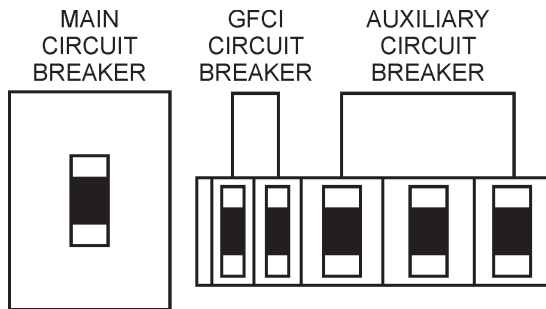

Figure 44. Main, Aux. and GFCI Circuit Breakers
1. Be sure and place the **main**, **G.F.C.I.** and **aux.** circuit breakers (Figure 44) in the “**OFF**” position prior to starting the engine.
1. Place both the **MAIN**, **GFCI** and **LOAD** circuit breakers as shown in Figure 44 to the "OFF" position.
1. To shut-down the engine in the event of an emergency, switch the **MAIN**, **GFCI** and **LOAD** (Figure 44) circuit breakers to "OFF" position.